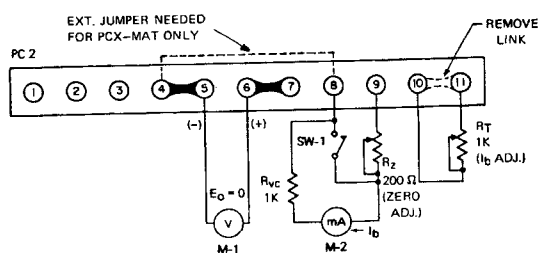

FIG. 3-4 PROGRAMMING RATIO CALIBRATION
- Connect calibration set-up as shown in FIG. 3-4.